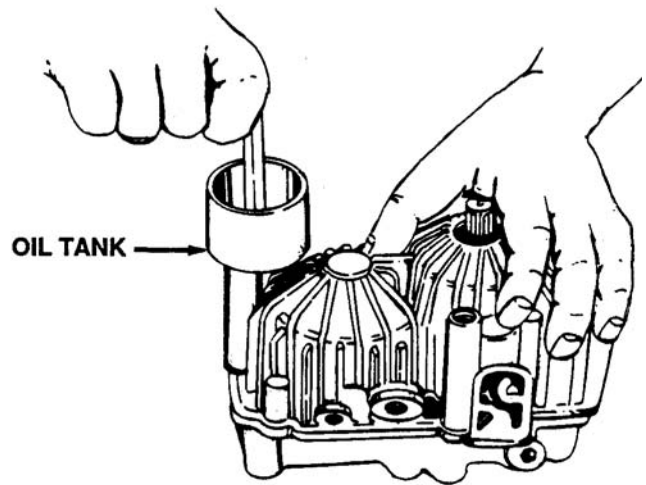

Figure 6-11. Oil Tank Removal
- b. Unscrew oil tank. See Figure 6-11.